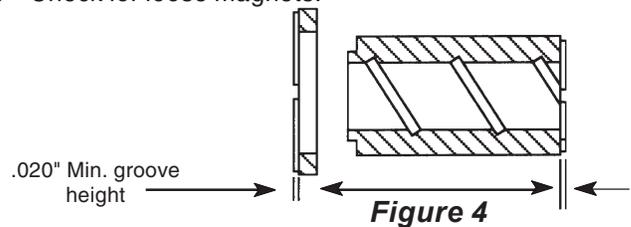

Figure 4
- Check impeller drive bushing (Item 3A), and impeller thrust ring (Item 2A). If cracked, chipped or scored, then replace. If minimum groove height is less than the minimum height recommended, then replace. See Figure 4.